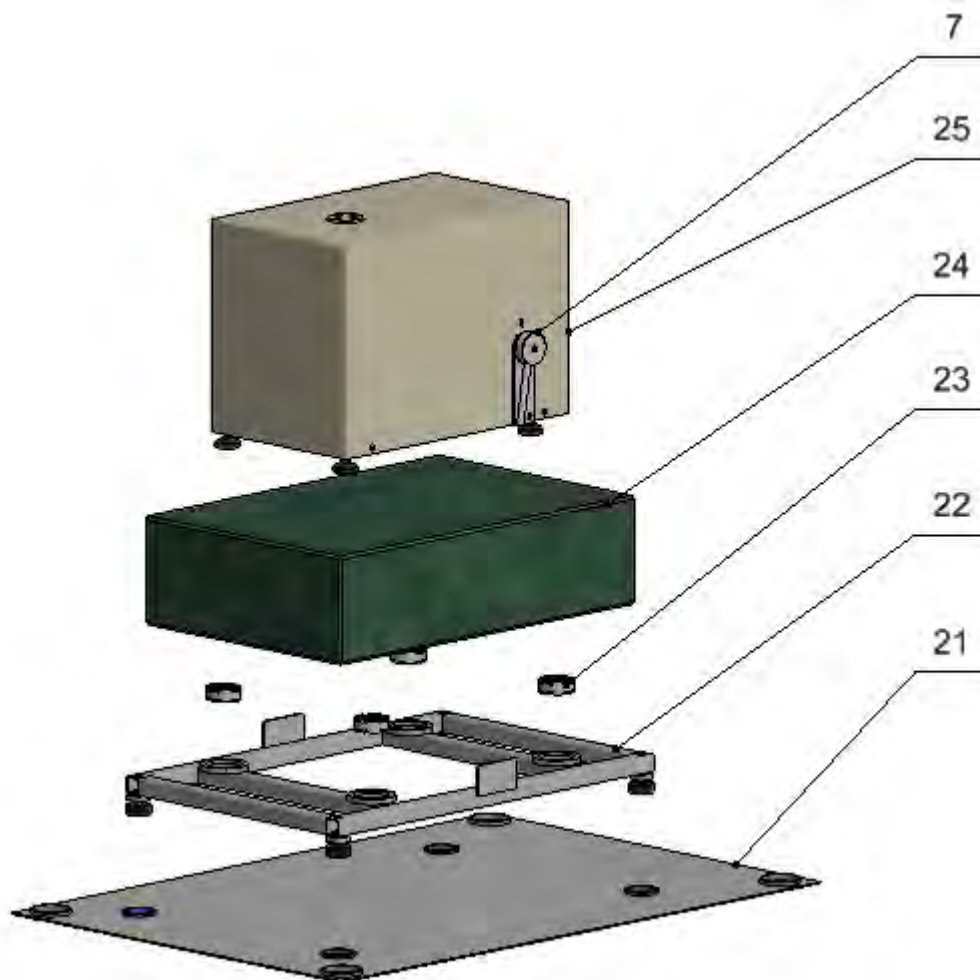

Fig. 10
16. Place sheet metal plate (21) onto comparator's target location. (Fig. 10)
17. Make sure that anti-vibration table (22) is placed in relation to sheet metal plate (21) in a way ensuring that table feet are positioned concentrically to the sheet metal plate. (Fig. 10)
18. Put vibration dampers (23) into outlets of the anti-vibration table (22). (Fig.10)
19. Put stone (24) onto vibration dampers, make sure that the stone is coaxially positioned to anti-vibration table (22). (Fig.10)
20. Using table feet (turning left/right) level the anti-vibration table with the stone placed on. (Fig.10)
21. Put comparator (25) onto the stone. (Fig.10)
22. Undo knob (7) and the lever. (Fig.10)